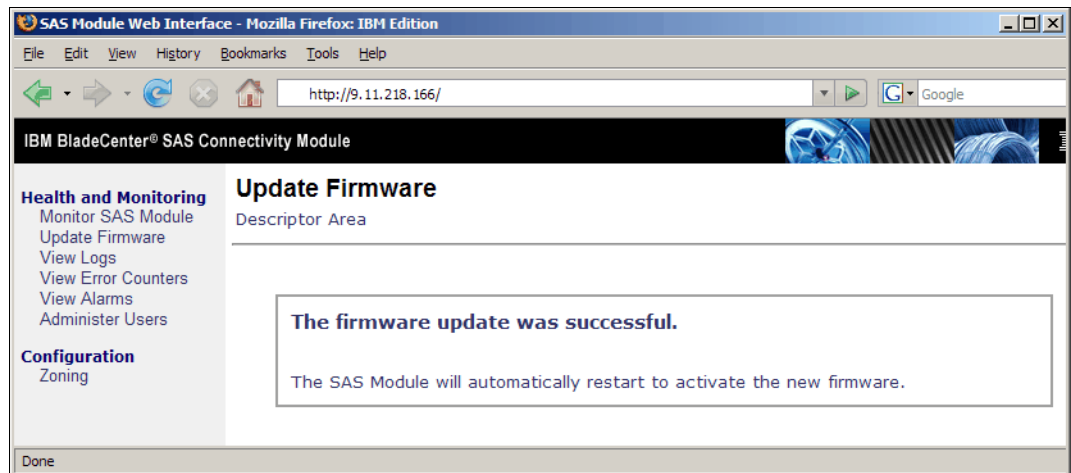

Figure 20-6 SAS Connectivity Module - Update successful
- Click **OK** or **Cancel**. If the installation of the new firmware file is successful, an installation confirmation window opens, as shown in Figure 20-6. If there are errors during the installation, an error message window opens.